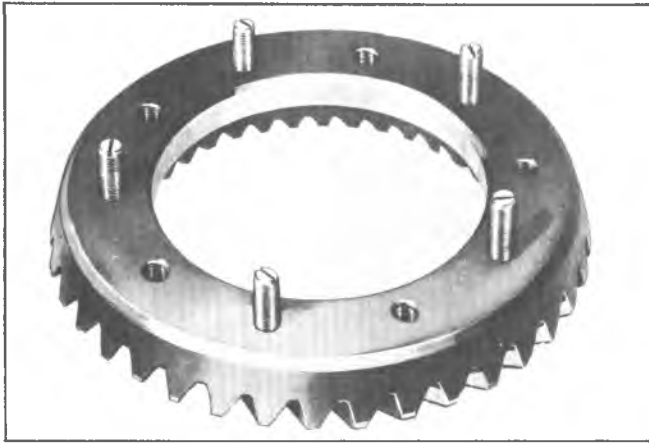

Fig. 5C—Ring Gear Guide Pins Installed
2. Install guide pins fabricated from 3/8-24 x 1 1/2" bolts with heads removed and ends slotted as shown in Figure 5C.